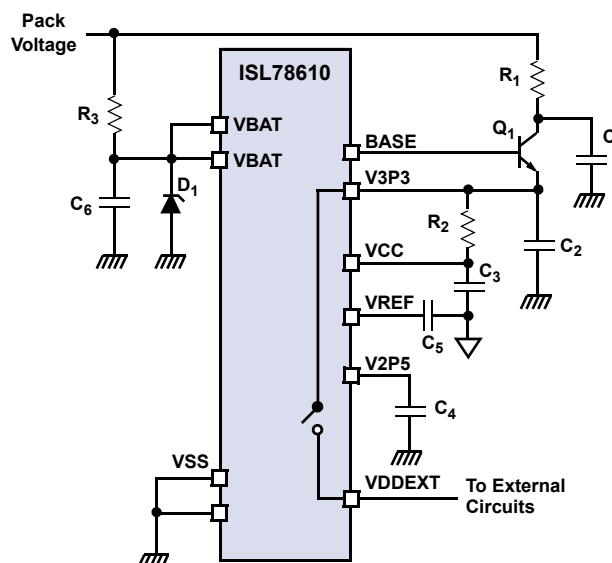

Figure 45. ISL78610 Regulator and External Supply Arrangement
The ISL78610 main low voltage regulator uses an external NPN pass transistor to supply 3.3V power for the V3P3 and VCC pins. This regulator is enabled whenever the ISL78610 is in Normal mode and can also be used to power external circuits through the VDDEXT pin. An internal switch connects the VDDEXT pin to the V3P3 pin. Both the main regulator and the switch are off when the part is placed in Sleep mode or Shutdown mode (EN pin Low.) The pass transistor's base is connected to the ISL78610 BASE pin. A suitable configuration for the external components associated with the V3P3, VCC, and VDDEXT pins is shown in Figure 45.
**Table 7. Component Selection for Circuit in Figure 45**